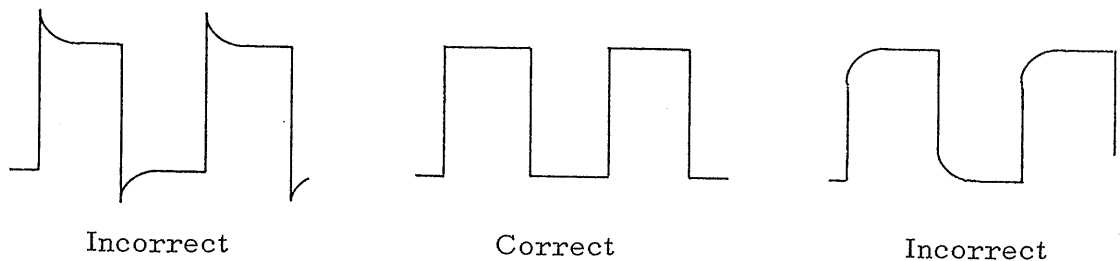

Fig. 5-6
- (4) Set the VOLTS/CM switch to 0.02. Perform phase adjustment by turning C202B until the upper portion of the square wave is level (Refer to Fig. 5-6).
- (5) As with (4) above, adjust phase in the 0.05 and 0.1 ranges by turning C203B and C204B respectively.
- (6) Connect the capacitor meter to the vertical INPUT terminal again. Adjust input capacitance in the 0.02, 0.05 and 0.1 ranges for 38pF by turning C202A, C203A and C204A respectively.
- (7) As with (4) above, perform phase adjustment in the 0.2 and 2 ranges by turning C205B and C206B respectively.
- (8) As with (6) above, turn C205A and C206A until input capacitance is 38pF in the 0.2 and 2 ranges respectively.
- (9) Recheck the procedures of (1) through (8).
- (10) The other ranges are automatically adjusted through the procedures of (1) through (8).